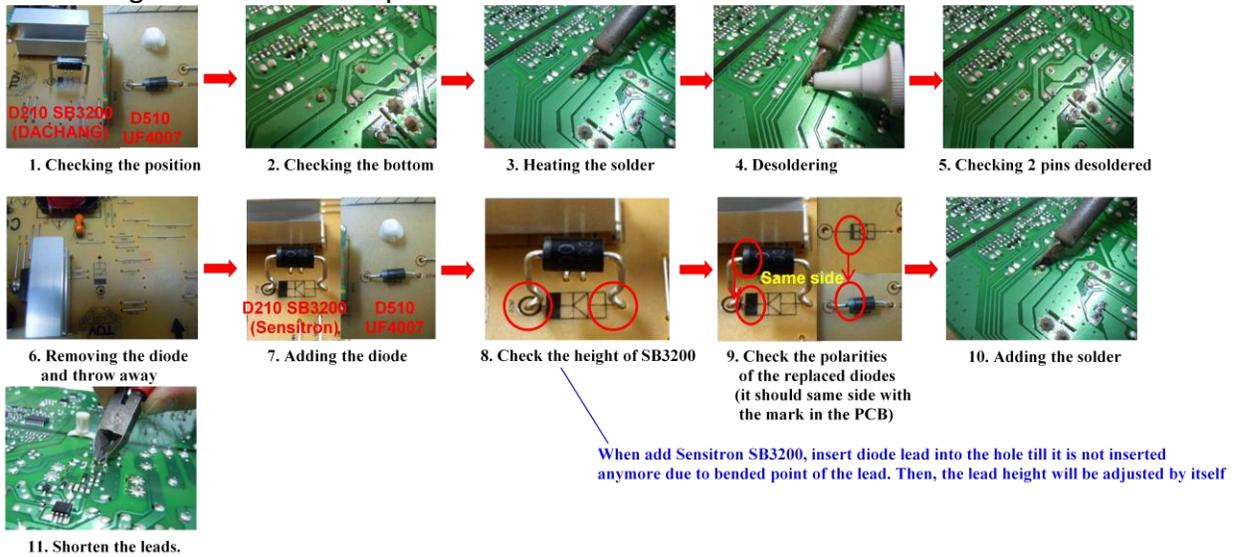

Fig. 5 D210 & D501 Replacement flow
2. Replace Diode D210 (SB3200) from Dachang (Fig. 3) to Sensitron source: 996510043937 (Fig.4). Refer to Fig. 5 for the diode replacement flow.
Refer to Fig. 5 for the diode replacement flow.